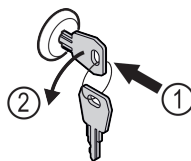

Fig. 177
- ▶ Insert the key. Fig. 177 (1)
- ▶ Turn the key anticlockwise by 90°. Fig. 177 (2)